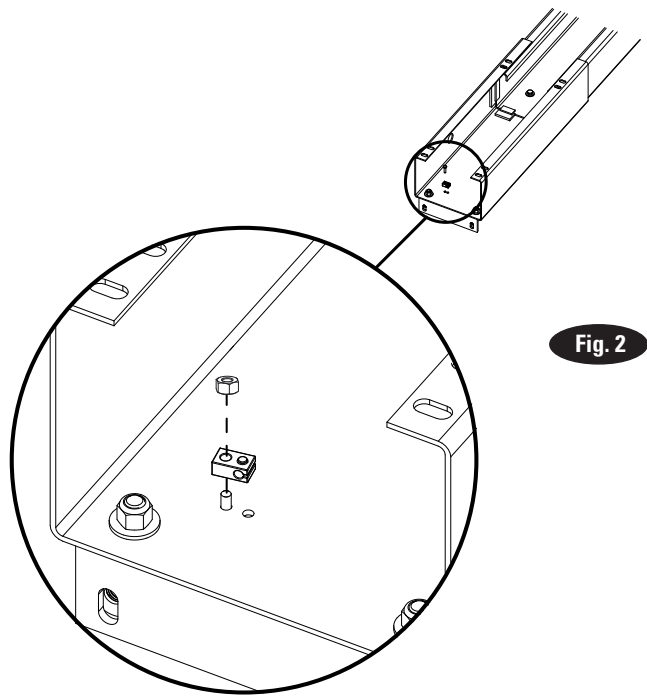

Fig. 2
2. Latch Cable Guides: Install the latch cable conduit guide brackets to column extensions with (1) 1/4" - 20NC x 1" HHCS and 1/4" - 20NC Flanged Locknuts, HHCS should go through hole nearest the edge as shown, Fig. 2.